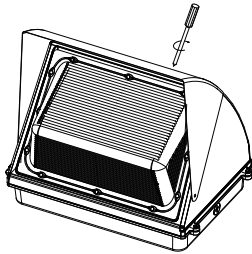

Figure 7
7. Please subject to the installation steps according to the actual products purchased. Follow the below additional installation steps if the product is equipped with areflector (Take the SWP01 series for example). When metal reflector is equipped, pls lock it on the luminaire with screws.(Figure 7)